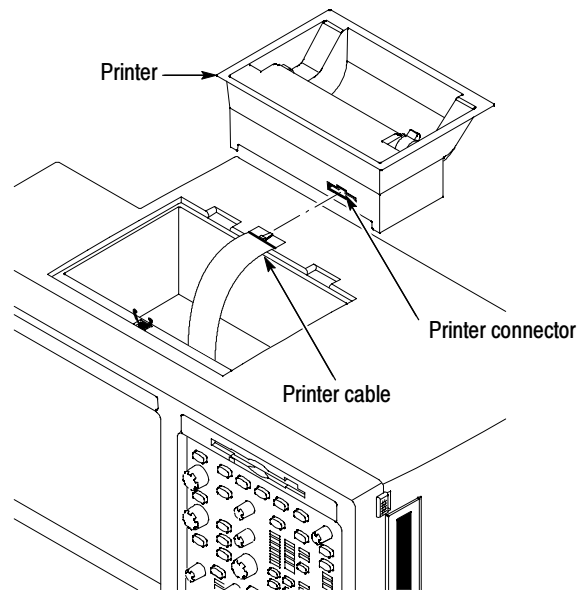

Figure 3: Printer cable connection
- c. If the internal printer is installed, disconnect the cable from the printer. See Figure 3.